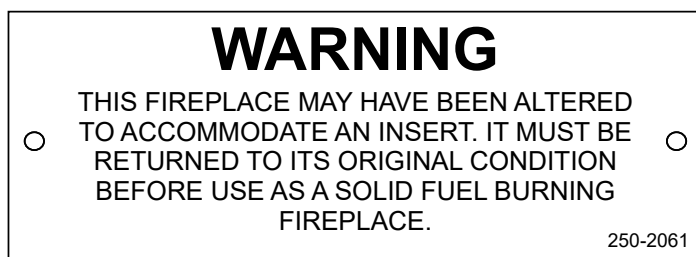

Figure 4.7
- The permanent metal warning label provided in the component pack must be attached to the back of the fireplace, with screws or nails, stating that the fireplace may have been altered to accommodate the insert, and must be returned to original condition for use as a conventional fireplace (**Figure 4.7**).